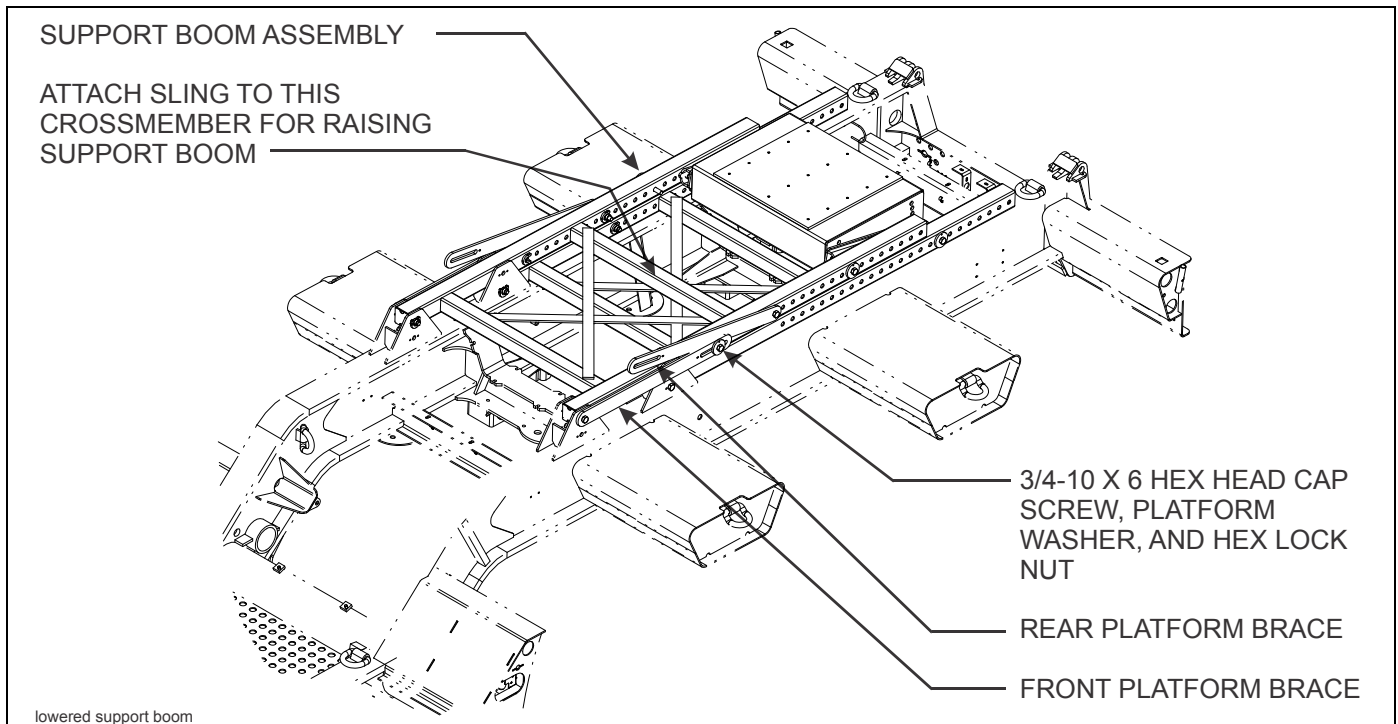

Figure 1-3: Lowered Support Boom
7. Position support arms as shown in **Figure 1-3**. Use removed hardware to hold front platform brace in place.